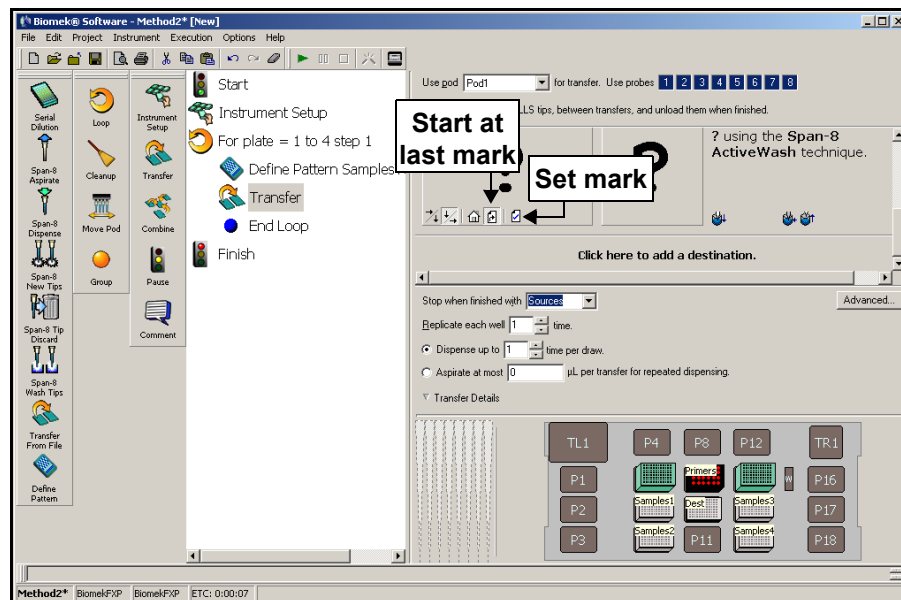

Figure 9-7. Configured Transfer step for inside Loop
14. In Transfer Details, select **Stop when finished with Sources**. The main editor should look like Figure 9-7.